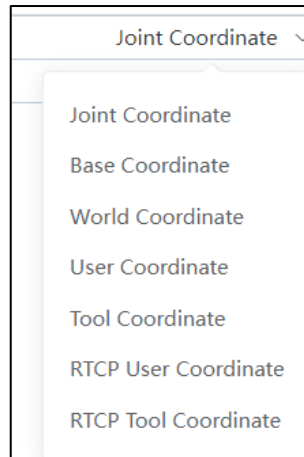

Fig. 1.14 Reference Coordinate System
2. In the TP status bar, select the reference coordinate system for robot operation as shown in Fig. 1.14.